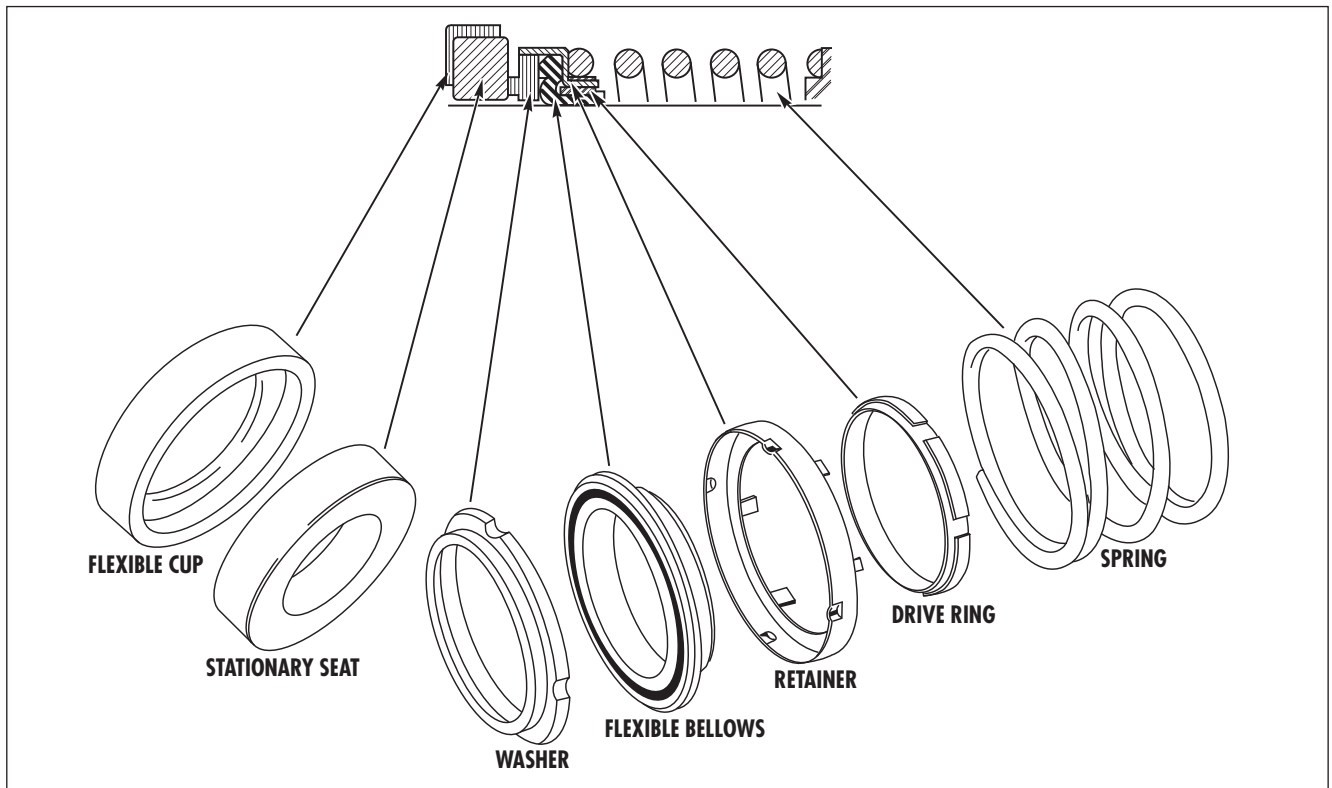

Figure 13. Mechanical seal.
- I. Slide one seal lock collar (54), with the step holding setscrews (55) facing the impeller, onto each end of the shaft. Position edge of collar on scribe mark made during disassembly and lock in place.
- III. Place the seal's spring, drive ring, retainer, flexible bellows and washer on the shaft sleeve in respective order. *Refer to Figure 13.*
- IV. Thoroughly inspect cavity of seal gland (49) for burrs or nicks which would damage seat of the seal. Apply a film of liquid detergent to seal seat and install it in seal gland cavity, taking care to seat it evenly and squarely.